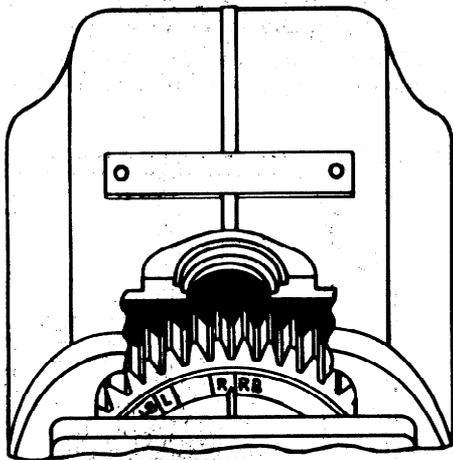

Figure 5. Alignment of Timing Marks on Distributor Gear — 6 Cylinder, Retard Breaker, Right Hand Rotation
c. Six cylinder, retard breaker types — The timing rib on the distributor block MUST lie between the "L" and "LB" or the "R" and "RB" marks on the gear, and should be nearer to the "LB" or "RB" mark, depending on magneto rotation. (See figure 5.)